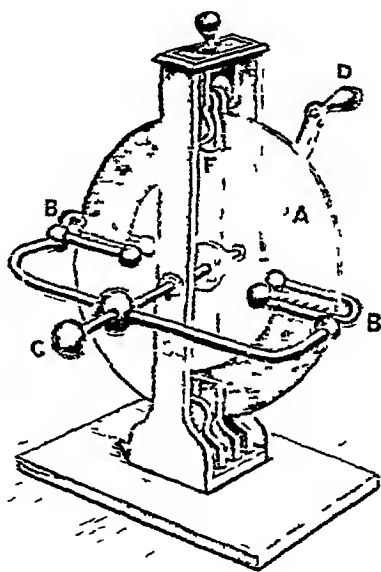

FIG 190
**The plate electrical machine**—The action of the plate machine is the same as that of the cylinder machine. a glass or ebonite plate. A (fig 190) takes the place of the cylinder, there are generally two rubbers and two sets of collecting points, B, each connected with the prime conductor, that consists of the curved brass rods and the knob C.